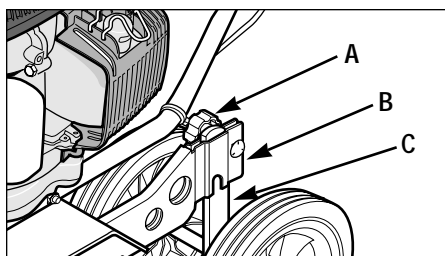

Figure 3
- a. Loosen tilling depth adjustment knob (A, Figure 3).
- b. Move wheel bracket (B, Figure 3) up in relation to height adjustment bar (C). Moving bracket upward results in shallower tilling, which is recommended for initial use.